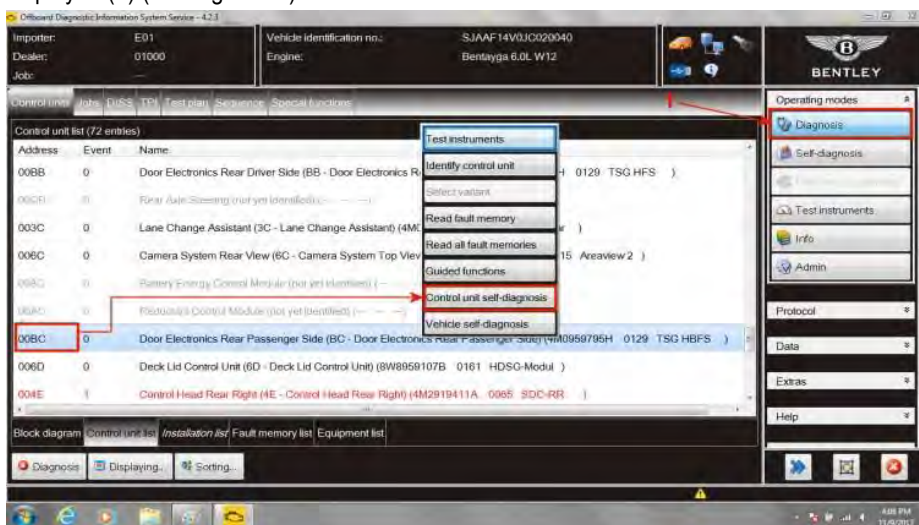

Figure 13
23. Return to *Diagnosis* (1) and select the other rear door. Within control units – Select (single touch) *00BC Door Electronics Rear Passenger Side* – Reveal drop down menu (extended touch and release). Select *Control unit self-diagnosis* (see Figure 13) and follow the same procedure 19 through 23 for this other rear door